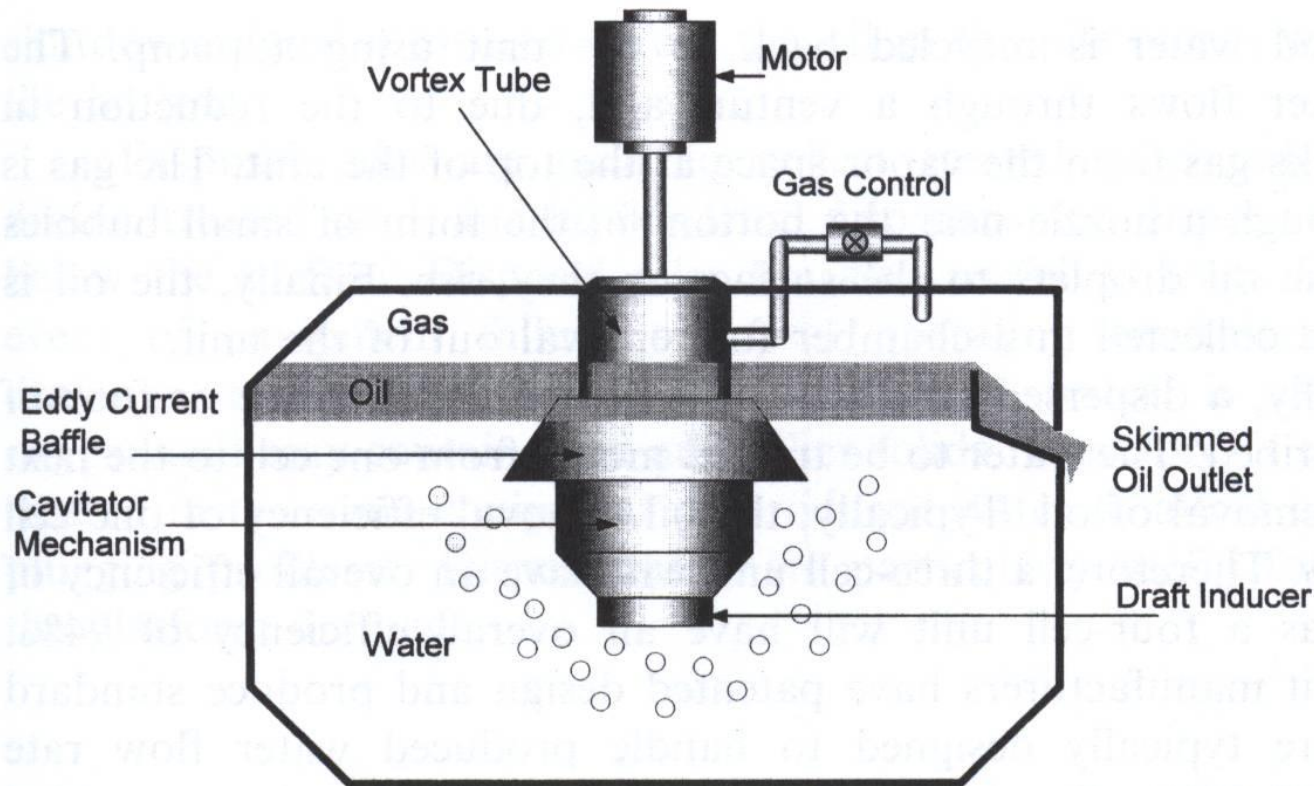

Figure 7 Unit utilizing the method of creating gas bubbles and dispersing them in the water by inducing a vortex.
- Gas bubbles are created and dispersed in the water by inducing a vortex using a mechanical rotor driven by an electric motor (Figure 7)